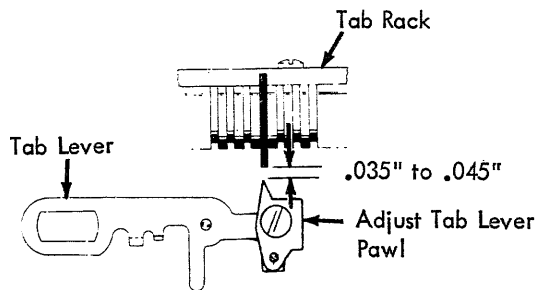

FIGURE 162. Tab Lever Pawl
2. Tab Lever Pawl - Adjust the pawl forward or back on the tab lever so that the tip of the pawl clears a SET tab stop by .035" to .045" with the tab lever at rest (Fig. 162).